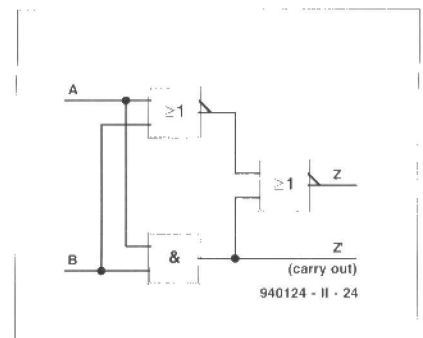

Fig. 14.
This is the truth table for AND. Since we need an AND gate for the carry digit, we do not need an XOR gate as such; the combination of AND and two NORs in **Fig. 14** performs the XOR function. This circuit is known as a *half-adder*, because its operation is restricted to adding two one-digit binary numbers.
- Check that the circuit of Fig. 14 adds correctly by writing out its truth tables.